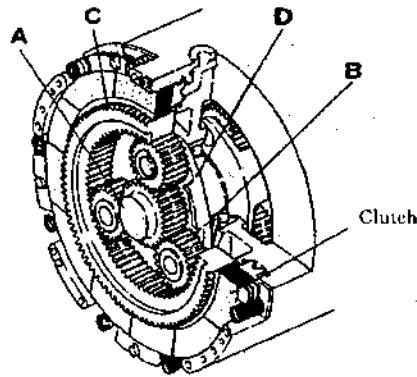

Fig. 2-10 Operation principle of planetary gear
The planetary gear system is composed of sun gear(A),planetary gear(B),ring gear(C) and carrier(D) (See Fig. 2-10). The planetary gear(B) is supported on the carrier(D) and meshes with the sun gear(A) and the ring gear(C).